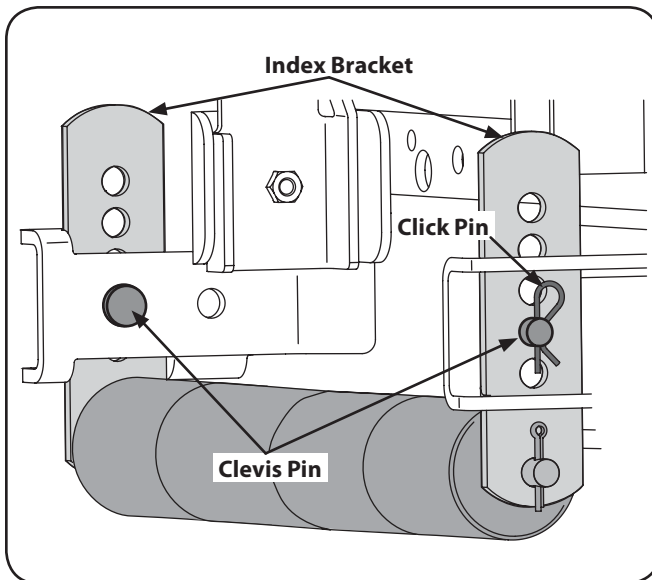

Figure 6-7
1. While supporting the roller assembly, remove click pin and withdraw the clevis pin from both the left and right roller index brackets. See Fig. 6-7.
3. Align the nearest index bracket holes with the holes in the deck mounting brackets. Insert the clevis pins through the deck brackets and the index brackets and secure with the click pins. See Fig. 6-7.